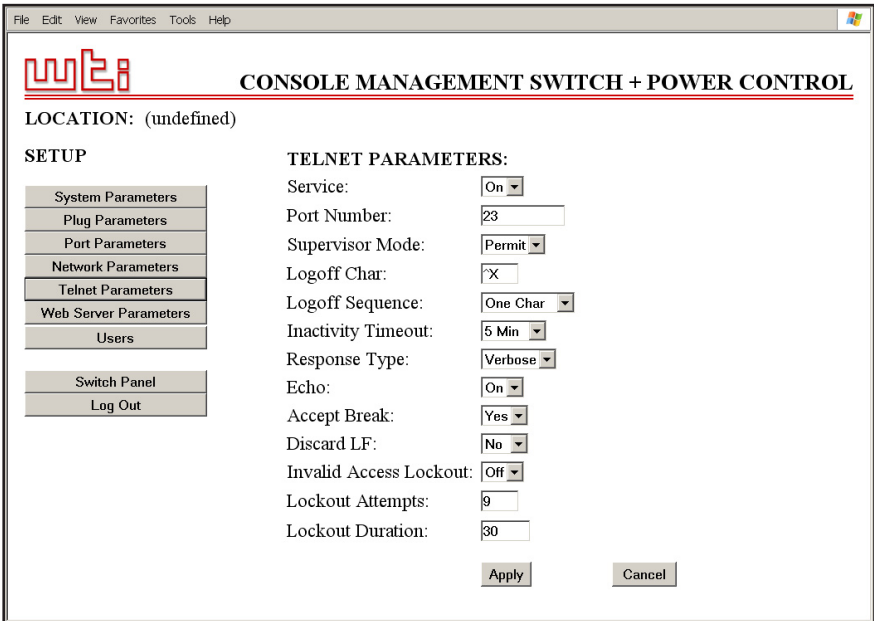

Figure 5.13: The Telnet Port Parameters Menu - Web Browser Interface
- **Web Browser Interface:** Click the "Setup" button to access the Setup Menus, and then click the "Telnet Parameters" button; the Telnet Parameters menu will be displayed as shown in Figure 5.13.